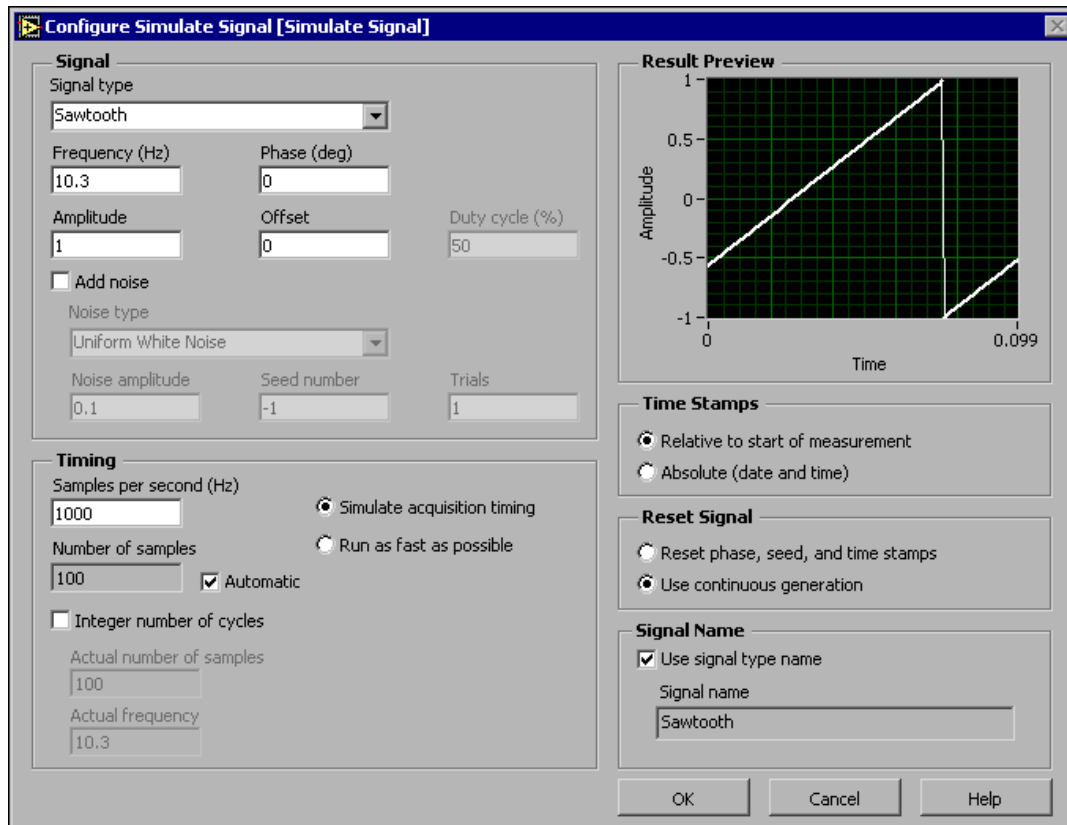

Figure 2.20
3. Select Sawtooth from the Signal type pull-down menu. Notice that the waveform on the graph in the Result Preview section changes to a sawtooth wave. The Configure Simulate Signal dialog box should appear similar to Figure 2.20.
6. When a double-headed arrow appears, shown at left, click and drag the border of the Express VI until the Amplitude input appears. Notice how you expanded the Simulate Signal Express VI to display a new input. Because the Amplitude input appears on the block diagram, you can configure the amplitude of the sawtooth wave on the block diagram. In Figure 2.20, notice how Amplitude is an option in the Configure Simulate Signal dialog box. When inputs, such as Amplitude, appear on the block diagram and in the configuration dialog box, you can configure the inputs in either location.